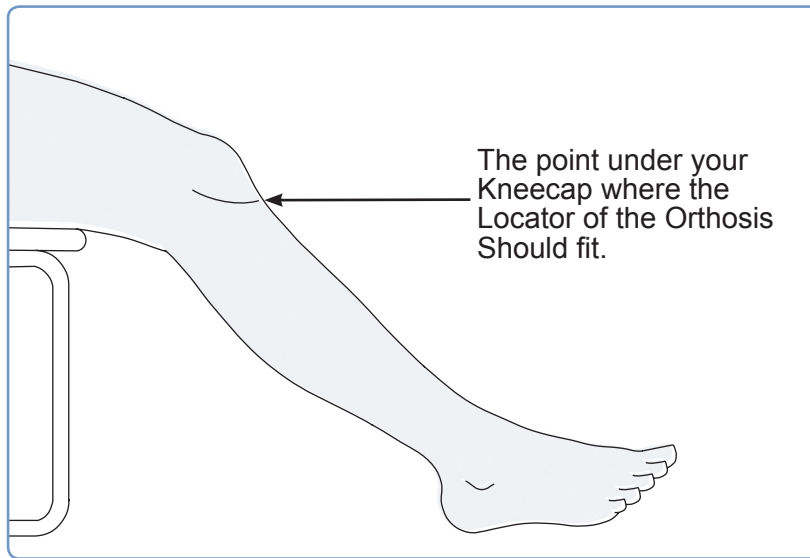

Figure 5: Recommended Knee Angle for Orthosis Application
1. While seated, slightly extend your leg as seen in Figure 5. This causes the outline of the kneecap to be clearly defined. It may be helpful to place your foot on a small stool or footrest.